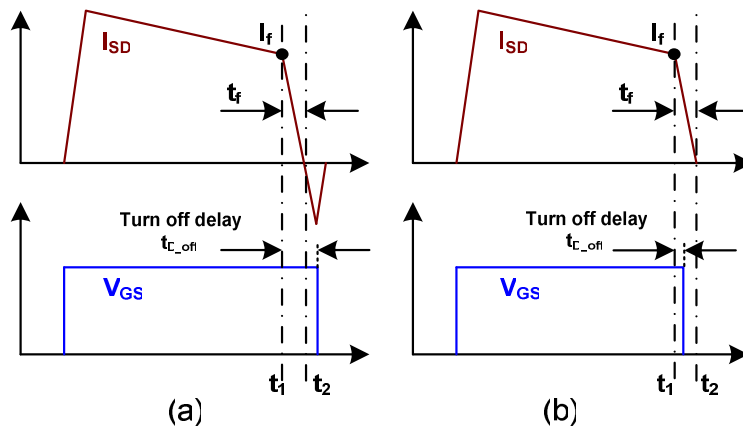
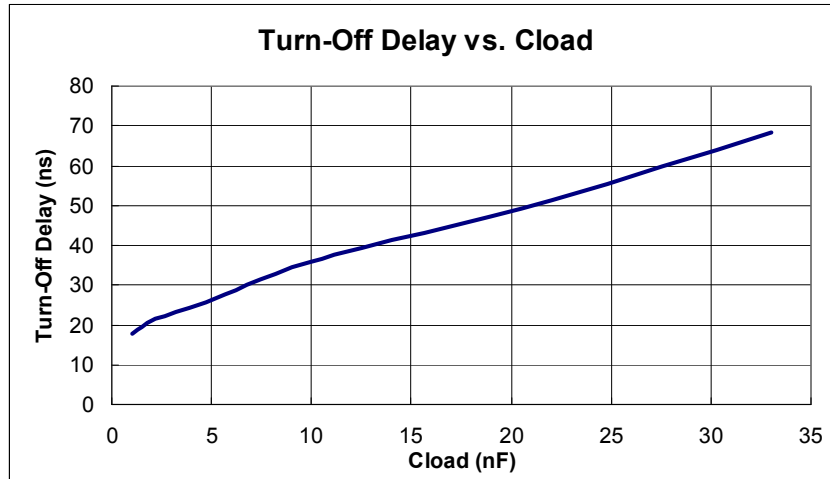

Figure 23 — CCM Turn Off of MP6902 in Flyback Converter
Figure 24 — Turn off Delay vs. C_{LOAD} for MP6902
Figure 23 shows the different turn-off timing of the SR FET gate driver which affect the switching current (I_{SD}).
In figure 23(a), reverse current (shoot through) occurs due to the gate driver V_{GS} is turned off after switching current I_{SD} crosses zero (at t_2).
Figure 24 shows the typical turn off delay of MP6902 with different capacitor load on gate driver. If this turn off delay is smaller than the CCM current turn-off falling time (t_f , from t_1 to t_2 in figure 23), no shoot through occurs, such like in figure 23(b).
The CCM current turn-off falling time in figure 23 can be derived as:
From figure 23, known that in order to avoid reverse current lead by shoot through in CCM Flyback with MP6902, it is preferred $T_{D_off} \leq t_f$ to make sure the gate driver be pulled down before switching current drops to zero.
From (23), we can get the desired T_{D_off} for this case is ~22ns. Then select the 60V SR MOSFET as AM90N06 from Analog Power, which has about 25ns turn-off delay according to figure 24.